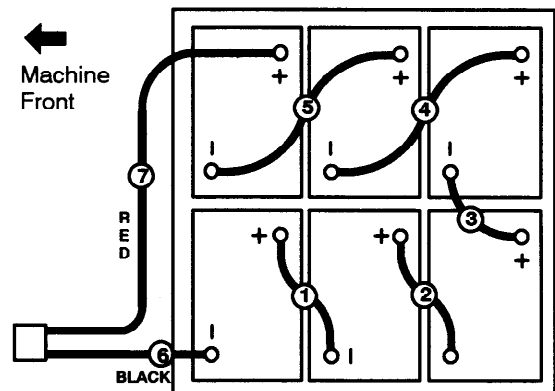

Figure 3
4. Carefully install batteries into battery compartment and arrange battery posts as shown (Fig. 3).
6. Connect cables to battery posts in numerical order as labeled, RED TO POSITIVE & BLACK TO NEGATIVE (Fig. 3).